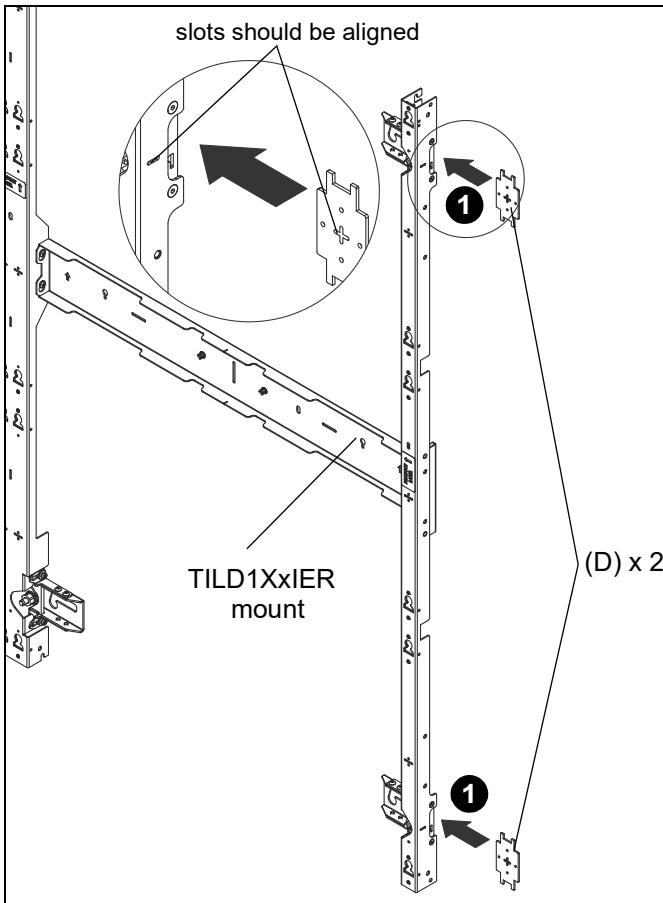

Figure 6
1. Slide spacer plates (D) into slots on side of TILD1XxIER mount where TILD1XxIERF mount will be attached. Plates should fit into slots perfectly if aligned correctly. (See Figure 6)